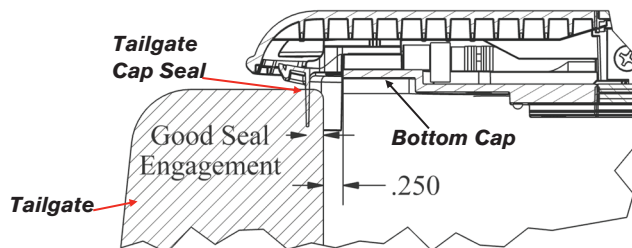

FIG. 5A
- Shut the tailgate and pull the rails back until the tailgate cap seals have good engagement with your tailgate. A good way to check for proper engagement is to make sure the bottom cap and tailgate have 1/4" gap (FIG 5A).